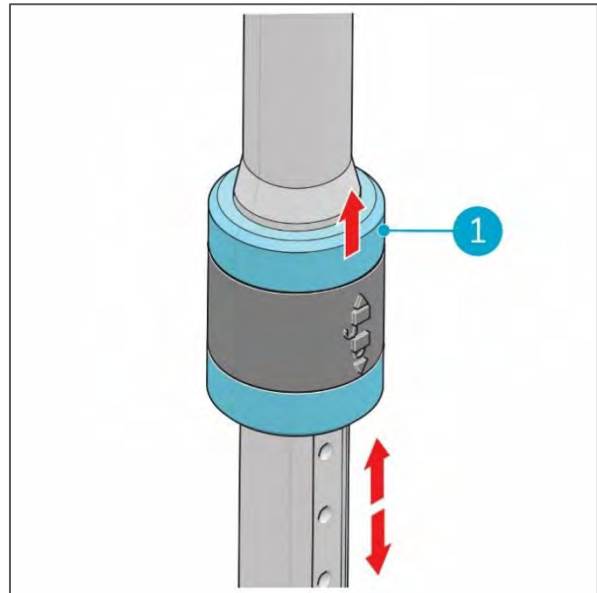

Figure 11
Pull the collar (Figure 11, pos 1) on the wand up to unlock it, adjust the length of the wand and release collar to lock it.